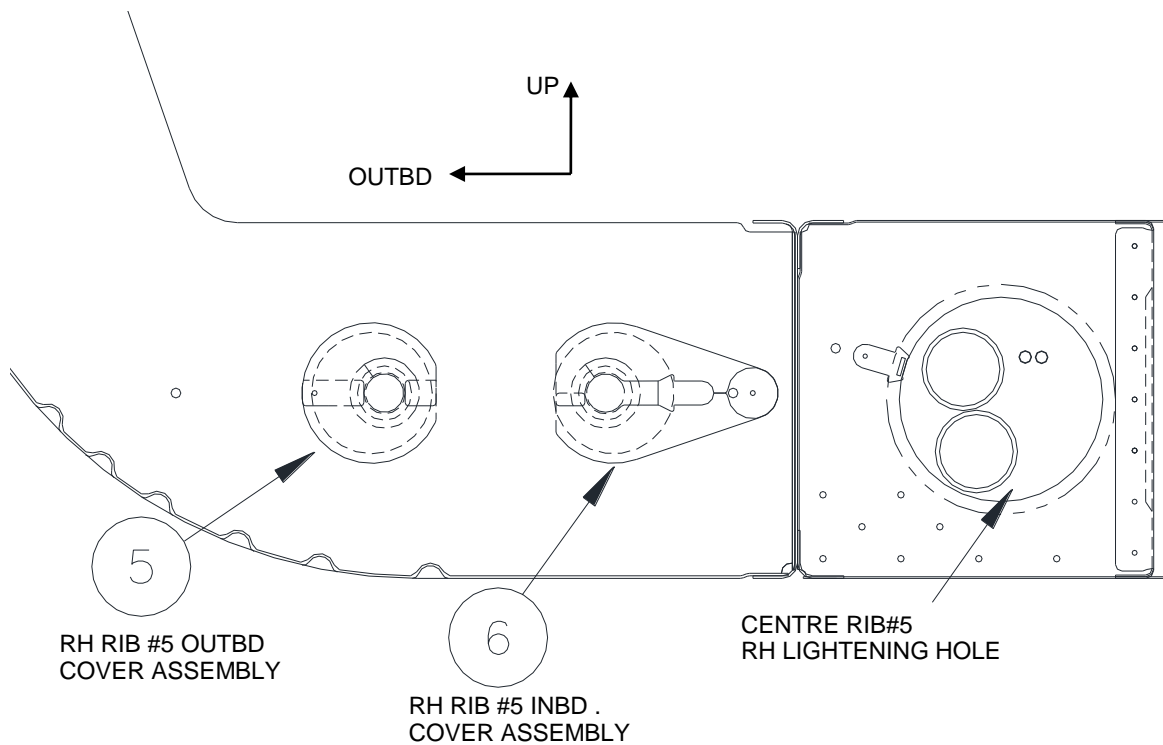

Figure 22: Rib#5 Outbd and Inbd Cover Assy Installations
1. Clean around the lightening holes on the forward surface of Rib #5, shown in Figure 22, using a solvent cleaner and lint free cloth. Wipe the surface dry using a clean lint free cloth.
5. Close the Rib #5 Outbd Cover Assembly over the grommet and press the assembly against the lightening hole flange. See Figures 22 and 23.
11. Close the Rib #5 Inbd Cover Assy over the grommet and press the assembly against the lightening hole flange. See Figures 22 and 23.
14. Cover the Centre Rib #5 RH Lightening Hole identified in Figure 22 by applying lengths of Glass Cloth Tape (Item 11) across the orifice and around the conduits and fuel lines. Ensure the lengths of Tape extend past the edge of the Lightening Hole by at least 1", and that the Tape lengths overlap each other by at least 0.5".